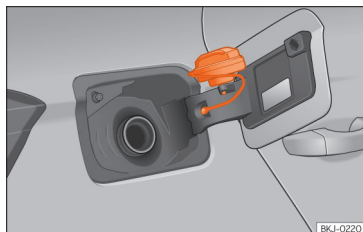

Fig. 149 Fuel tank flap with tank cap attached.
- Place it in the space on the hinge of the open flap >>> **Fig. 149**.